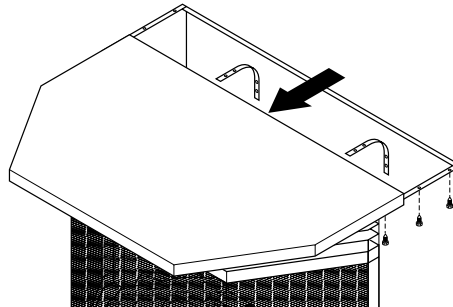

Figure 11 - Removing Stove Top Panel
1. Remove top panel of stove by removing three screws from under top lip on each side of stove (see Figure 11).
2. Facing front of stove, carefully slide top panel forward until it is completely removed from stove (see Figure 11).